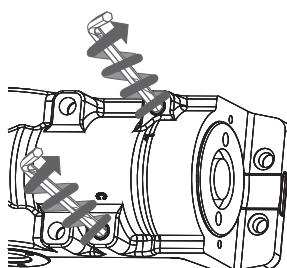

Figure 19
16. Slowly open the "C" and "L" valves and allow door to close to the jamb. (Figure 19)